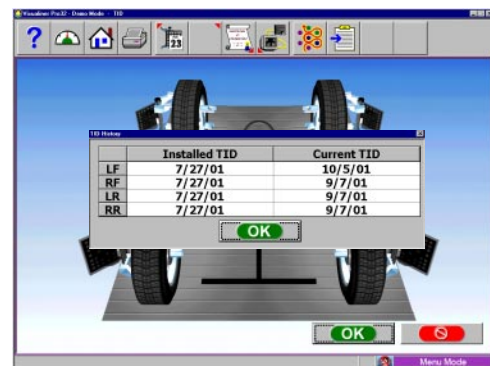

Figure 3-52
14. Checking current TID dates can quickly be determined by clicking on the date icon in the tool bar. (Figure 3-52) The software brings a date screen forward displaying a matrix for each target and the last date that TID was done on each target.